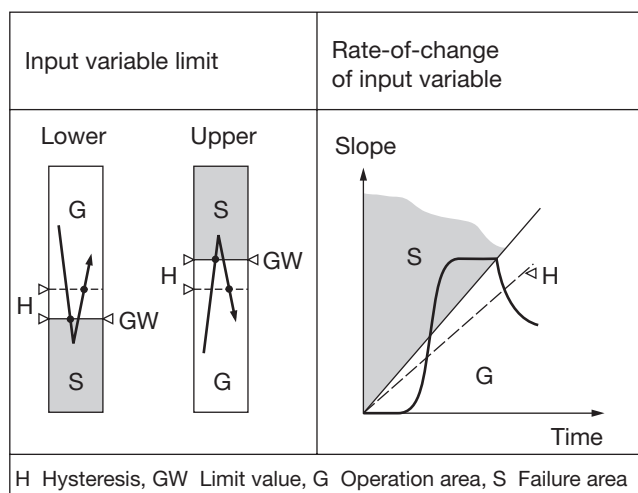

Fig. 3. Switching function according to limit monitored.
- Lower limit value of the measured variable (see Fig. 3, left)
- Upper limit value of the measured variable (see Fig. 3, left)
(see Fig. 3, right)